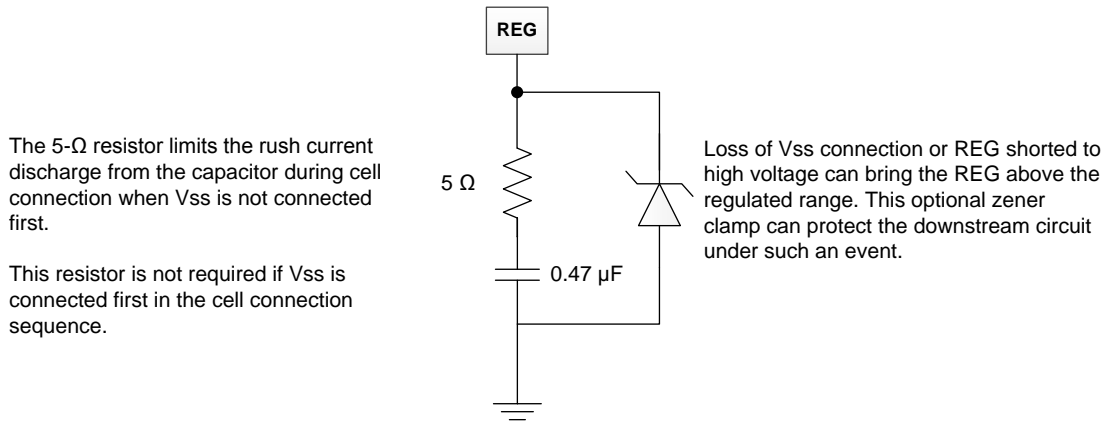

Figure 18. 5-V Zener Diode
1. If VSS pin cannot be connected first, it is required to add a resistor of a minimum of 5 ohms to a maximum of 10 ohms (a 5-ohm resistor is used in the reference schematic, Figure 17) in series with the REG capacitor. When VSS is floating, the REG capacitor always charges up to the VDD voltage. When VSS is finally connected, the REG capacitor will be discharged. Adding a small resistor in series reduces the current strength and avoids any potential damage to the REG pin. The 5-ohm resistor can be placed in series with the REG connect circuit (as shown in Figure 17) or in series of the REG capacitor (as shown in Figure 18). Placing the resistor in series with the REG circuit results in a small drop of VREG (for example: max loading of 1 mA with a 5-ohm resistor will drop 5 mV on VREG), but such a connection can protect against rush current discharge from both REG capacitor or external filter capacitor connected to the REG pin. Placing the resistor in series with the REG capacitor is an alternative to avoid additional drop in VREG if the filter capacitor used by the external circuit is much smaller than the REG capacitor.
4. A zener diode can be added to the REG pin to VSS as shown in Figure 18. This is recommended to protect the circuit connected to the REG pin if floating VSS in the field is a risk concern. When VSS is floating (during cell connection when VSS is not connected first or in system fault with BAT– wire broken), the REG voltage always pulls up to VDD. In a 4-S configuration, the REG voltage can reach approximately 16 V with VSS floating. Adding a zener diode clamps the REG voltage to a safe level for the external circuits connected to the REG pin. Having the zener diode can also protect the external circuits if REG pin is shorted to OUT pin or any other high-voltage output terminal. If a zener diode is used, TI recommends putting the diode on the battery side with the bq296xxx device to allow protection on both the REG pin as well as the circuit connected to REG under floating VSS condition. The resistor in series with the REG pin is not required in this case.